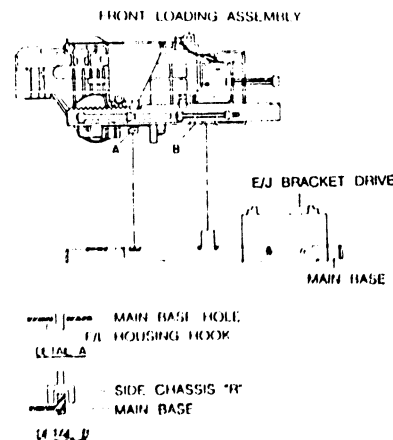

Fig.22 Mechanism Chassis Assembly Removal
2. While holding cassette holder in the eject position, align the A and B assembly points as shown in Fig. 22.
3. Tighten two (2) screws.